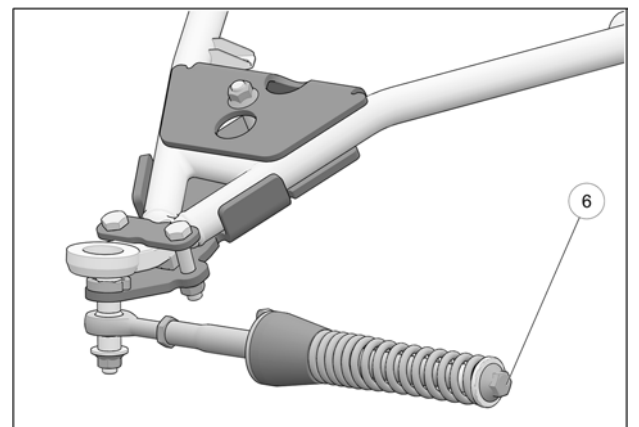

Fig. 18
- Verify that spring assembly bolt (**6**) is tightened to the recommended torque specification: 75 N•m [55 lb•ft]. Refer to Fig. 18